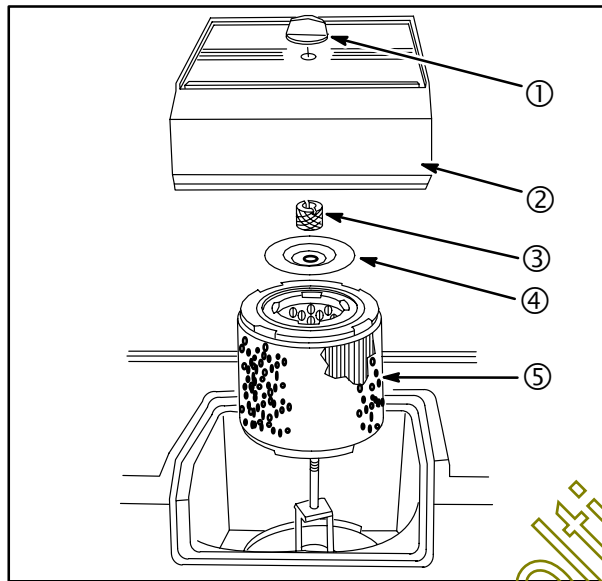

Fig. 1
1. Remove air cleaner knob (1) and cover (2), **Fig. 1.**
2. Remove air cleaner nut (3), top plate (4) and element (5).